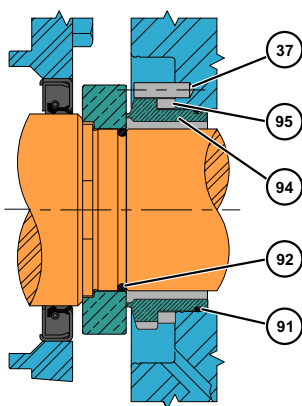
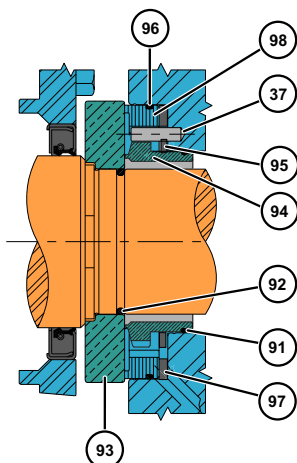

Figure 68 - Single Mechanical Seal
Figure 69 - Double Mechanical Seal
1. Lubricate the shaft O-ring (Figure 68, item 92) with a lubrication compound compatible with the O-ring material and process fluid(s). Place the O-ring on the shaft.
2. Install the rotating seal seat (item 93) on the shaft. Align the drive flats on the seat with the drive flats on the shaft.
4. Install the inner wave spring (item 95) onto the inner seal (item 94).
5. Lubricate the inner seal O-ring (item 91) with a lubrication compound compatible with the O-ring material and process fluid(s). Install the inner seal O-ring into the groove of the inner seal.
7. If a double mechanical seal is used, install the outer wave spring (Figure 69, item 97) in the body and the outer O-ring (item 96) in the outer seal groove (item 98). Place the outer seal in the pump body around the inner seal, aligning the notches in the outer seal with the stop pins in the body.